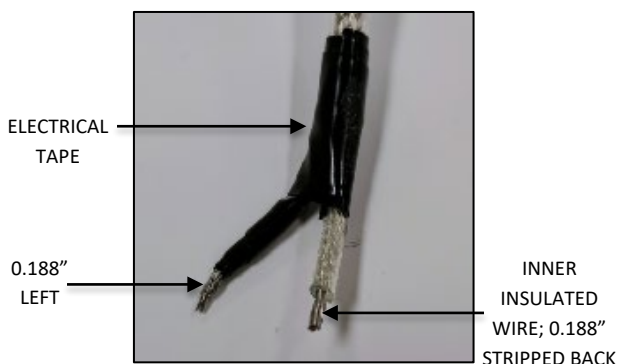
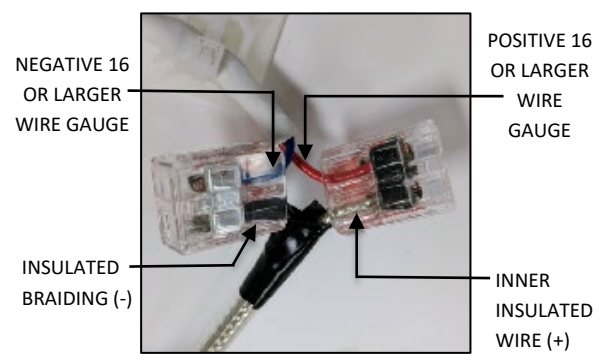

FIG. 23
FIG. 24
3. Using electrical tape, insulate the twisted strands leaving 0.188" exposed for connections. Strip off 0.188" of the inner insulation as you normally would for 18AWG stranded core wire as shown in FIG. 23 below. Connect the inner insulated wire (+) to the positive 16 gauge or larger wire ran in step 5 at the hanging bracket and Connect the outer braiding (-) to the negative 16 gauge or larger wire ran in step 5 at the hanging bracket FIG. 24 below.